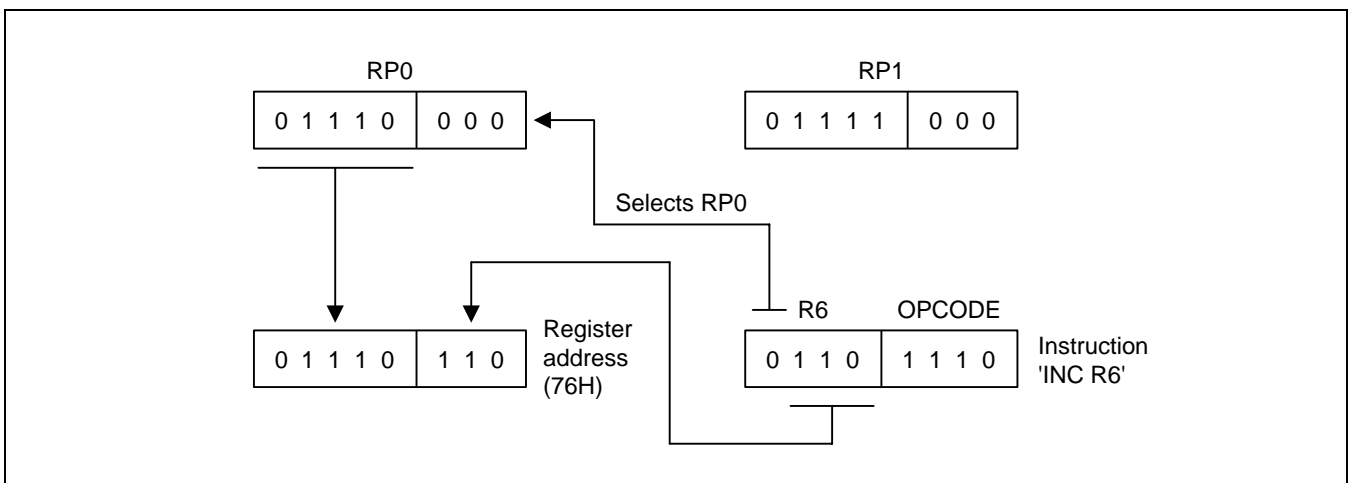

Figure 2-15. 4-Bit Working Register Addressing Example
Return addresses for procedure calls, interrupts, and data are stored on the stack. The contents of the PC are saved to stack by a CALL instruction and restored by the RET instruction. When an interrupt occurs, the contents of the PC and the FLAGS register are pushed to the stack. The IRET instruction then pops these values back to their original locations. The stack address value is always decreased by one before a push operation and increased by one *after* a pop operation. The stack pointer (SP) always points to the stack frame stored on the top of the stack, as shown in Figure 2-15.